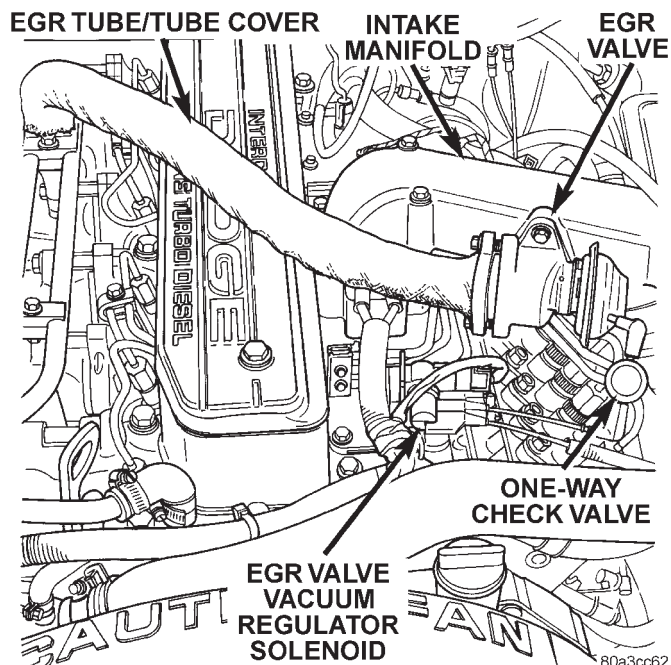
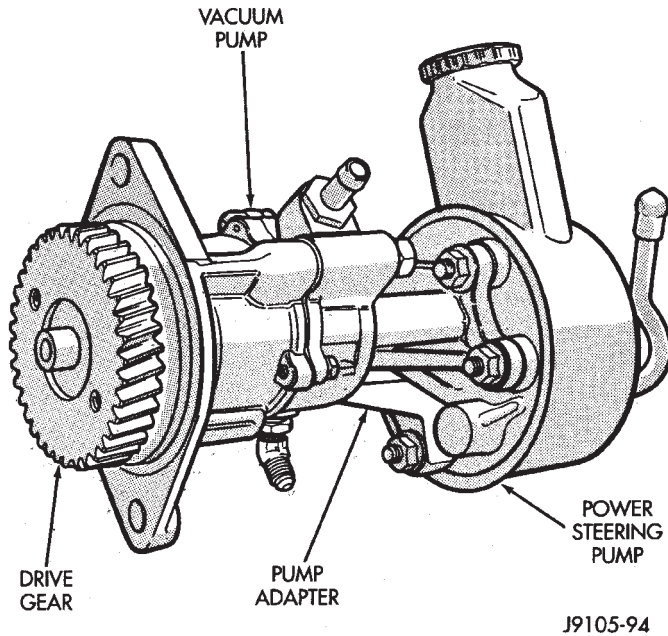

Fig. 1 EGR Valve and Components
Fig. 5 Engine Vacuum Pump
- An EGR valve assembly. The valve assembly is located at the front of intake manifold (Fig. 1). The EGR valve is a poppet style valve (on/off only) and is controlled by an internal diaphragm.
- An EGR valve vacuum regulator solenoid. The solenoid is located at the front/top of cylinder head (Fig. 1) and will control the on-time and off-time of the EGR valve. A vacuum transducer is not used
- An EGR tube (Fig. 1) connecting a passage in the EGR valve to the rear of the exhaust manifold.
- A vacuum pump to supply vacuum for the EGR valve vacuum regulator solenoid and EGR valve. The pump also supplies vacuum for operation of the speed control servo and the heating/air conditioning system. The crankshaft gear driven pump is located at the front of engine and is attached to power steering pump (Fig. 5).
- A quick-release one-way check valve (Fig. 1) to provide a fast release of engine vacuum from EGR valve diaphragm when EGR system is shut down.
(1) Check operation of EGR valve vacuum regulator solenoid and EGR system with DRB scan tool.
(2) Start engine and verify that vacuum is available at inlet fitting of EGR valve vacuum regulator solenoid. Vacuum is supplied by an engine driven vacuum pump (Fig. 5). Refer to Group 9, Engines for vacuum pump specifications and test procedures.
(3) Check EGR valve for operation and leaks. Refer to EGR Valve Test.
(4) Check operation of one-way check valve (Fig. 1). Refer to Check Valve Test.
To perform an electrical test of this solenoid, refer to the DRB scan tool. Also refer to the appropriate Powertrain Diagnostic Procedures manual. Vacuum to the solenoid is supplied from an engine driven vacuum pump (Fig. 5). Refer to Group 9, Engines for vacuum pump specifications and test procedures.
A quick-release type, one-way check valve is located in the vacuum line between the EGR valve and the EGR valve vacuum regulator solenoid (Fig. 1). This check valve allows engine vacuum to be quickly bled from EGR valve. If the valve is defective, vacuum will be stored in the EGR valve diaphragm motor (EGR valve will remain open). If the valve is leaking, the EGR valve may not open.